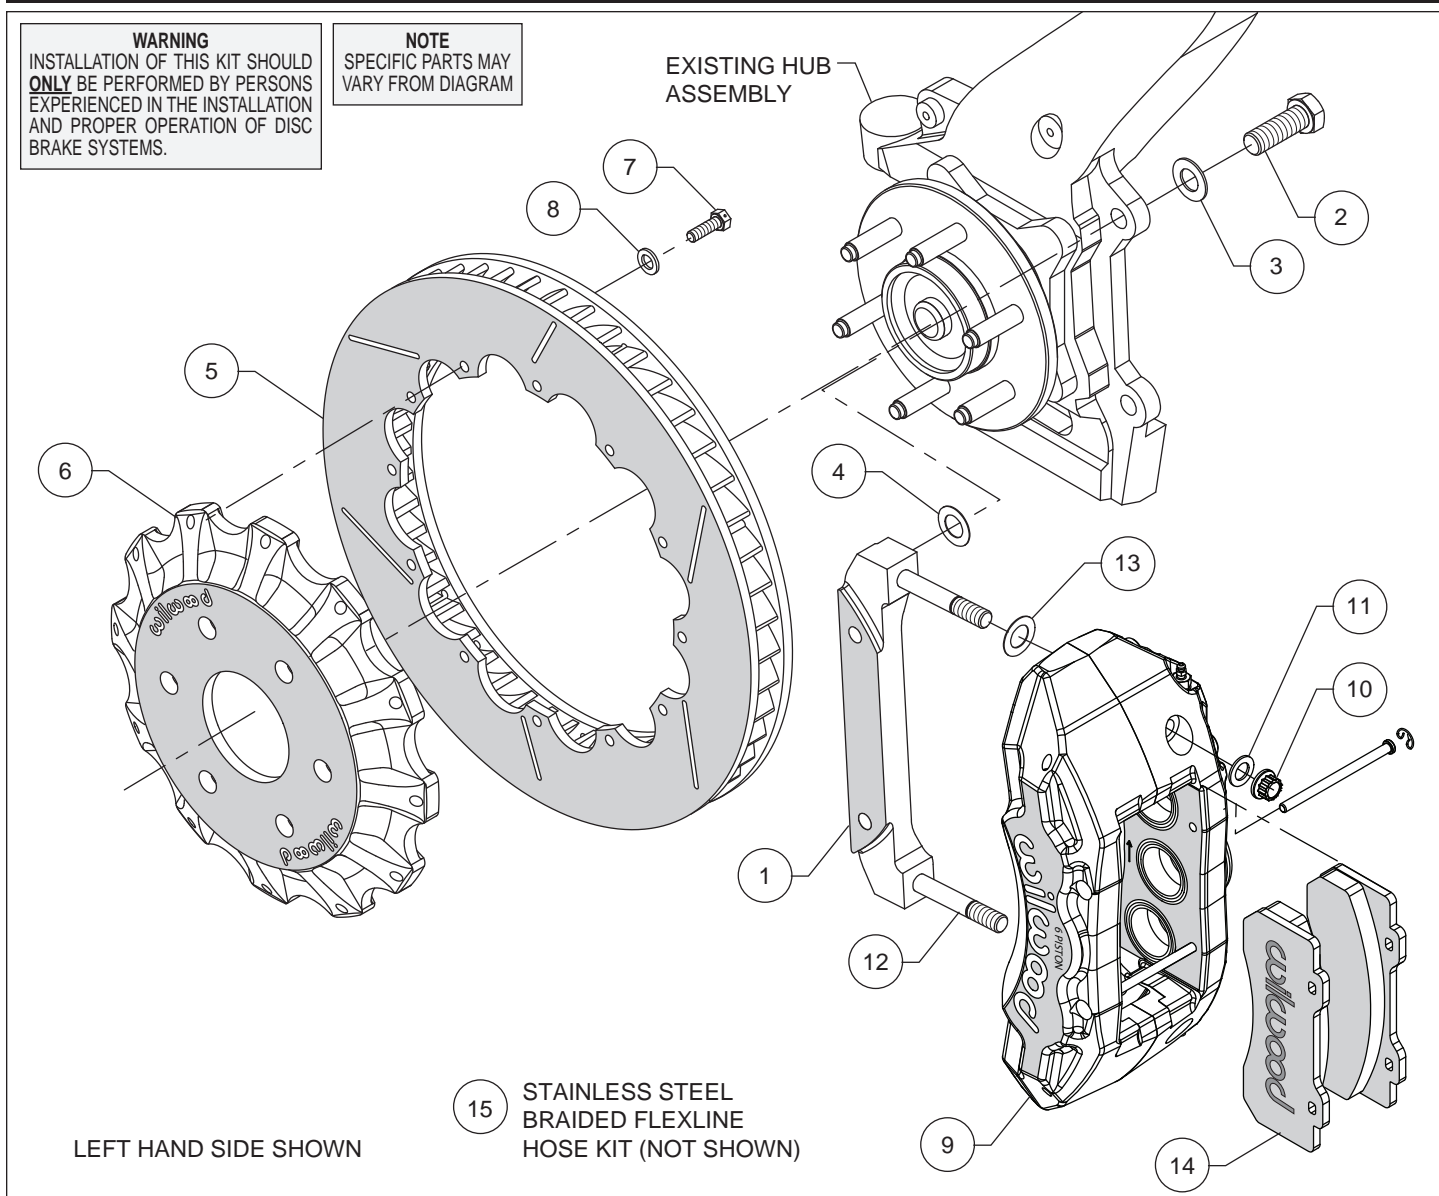
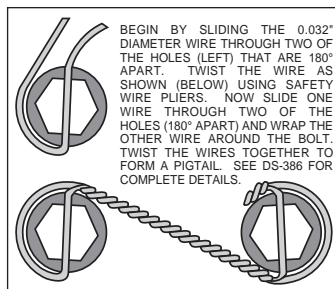

Figure 1. Typical Installation Configuration
Figure 3. Safety Wire Diagram
Assembly Instructions (numbers in parenthesis refer to the parts list and Figure 1 on the preceding pages):
- The caliper mount bracket (1) should initially be installed with clean, dry threads on the mounting bolts. Orient the bracket as shown in Figure 1 and Photo 1, and install using bolts (2) and washers (3). Initially place one .029 thick shim (4) on each bolt between the bracket and upright, Figure 1. Temporarily tighten the mounting bolts. **NOTE:** *The bracket must fit squarely against the mount bosses on the upright.* Inspect for interference from casting irregularities, machining ridges, burrs, etc. Later, after the caliper alignment has been checked, the mount bolts will be secured using red *Loctite*[®] 271.
- Orient the rotor (5) and the hat (6) as shown in Figure 1 and Photo 2. Attach rotor to hat using bolts (7) and washers (8). Using an alternating sequence, torque to 25 ft-lbs. For an added measure of security, the bolts may be safety wired using standard 0.032 inch diameter stainless steel safety wire as shown in Figure 3. Refer to Wilwood's data sheet DS-386 (available at www.wilwood.com/Pdf/DataSheets/ds386.pdf) for complete safety wire installation instructions.
- NOTE:** *This kit contains distinct right and left hand calipers that must be mounted in a specific direction, as described below.* Lubricate the caliper mounting studs (12) with lightweight oil. Mount the caliper (9) onto the bracket (1) using lock nuts (10) and washers (11), Figure 1. Ensure that the caliper is mounted so that the largest pistons are at the rotor exit end of the caliper, in relation to the direction of rotor rotation. Temporarily tighten the lock nuts and view the rotor through the top opening of the caliper. The rotor should be centered in the caliper, Photo 3. If not, adjust by adding or subtracting shims (4) between the bracket and the upright. Always use the same amount of shims on each of the two mounting bolts. Once the caliper alignment is correct, remove the bracket mounting bolts (2) one at a time, apply red *Loctite*[®] 271 to the threads, and torque to 77 ft-lb.